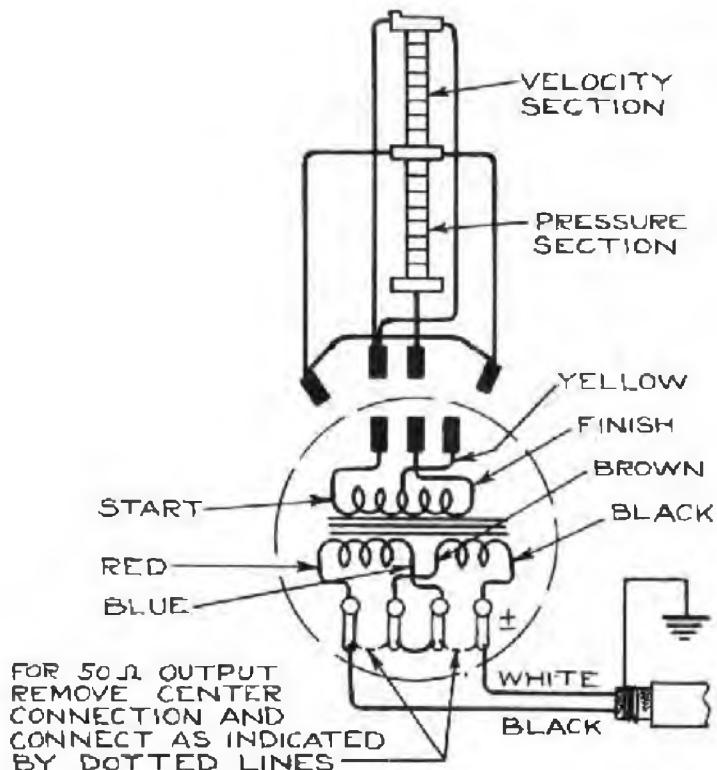

FIGURE 3 - MICROPHONE CIRCUIT
**CABLE CONNECTIONS** - The microphone is shipped connected for 250 ohms output. Transformer connections for 50 ohm output are shown in Figure 3. The terminal board is made accessible by removing the hemispherical bottom shell.